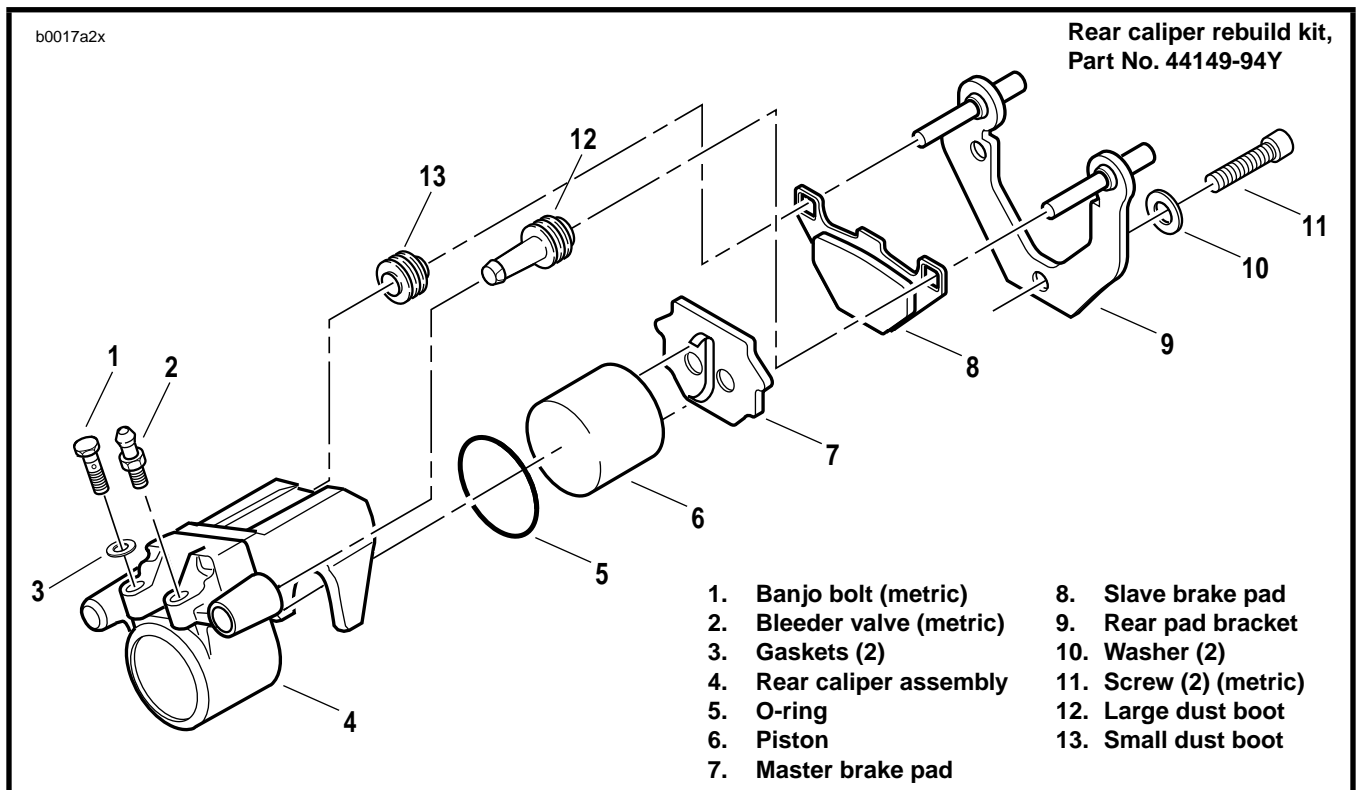

Figure 2-26. Rear Brake Pads and Caliper
1. See Figure 2-26. Open bleeder nipple cap on rear caliper. Install end of a length of plastic tubing over caliper bleeder valve (2), while placing free end in a suitable container. Open bleeder valve (metric) about 1/2-turn. Pump brake pedal to drain brake fluid.
2. Remove both caliper mounting screws (11) (metric) and washers (10) to free caliper from caliper mount.
3. Pump brake pedal until piston reaches its full travel. Remove banjo bolt (1) (metric) and two gaskets (3) to disconnect brake line from caliper. Discard gaskets.
4. Remove slave pad from rear pad bracket (9).
5. Remove rear pad bracket and dust boots (12, 13) from rear caliper assembly (4).
6. Remove master brake pad (7) from piston (6).
1. See Figure 2-26. Install **new** O-ring (5) within groove in piston bore of rear caliper assembly (4).
2. Apply light coat of D.O.T. 5 SILICONE HYDRAULIC BRAKE FLUID to piston OD, including chamfer. Apply a light coat to caliper piston bore (6) and ID of installed piston O-ring (5). Install piston into caliper piston bore. Use a "C" clamp to press in piston, if necessary.
2. See Figure 2-26. Install washers and screws (metric) to fasten rear caliper assembly to mounting bracket. Tighten screws to 18-22 ft-lbs (24.4-29.8 Nm).